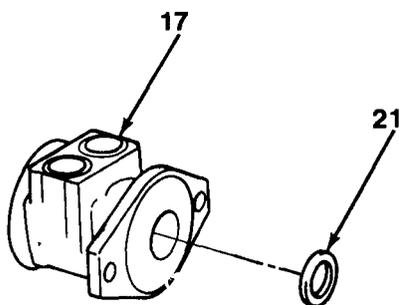

Figure 13-7
5. Apply molybdenum disulfide MIL-M-7866 to seal lip and install dirt and water seal (21) in housing (17, Figure 13-7). Seat dirt and water seal (21) against bearing, with seal lip facing bearing.